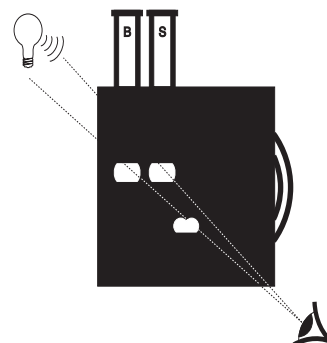

Figure 3. Comparing the Blank and the Sample
**9.1.** Elevate the color comparator to eye level up to a light such as the sky, window, or lamp, rotating disk until the closest match is achieved. (See Figure 3.)